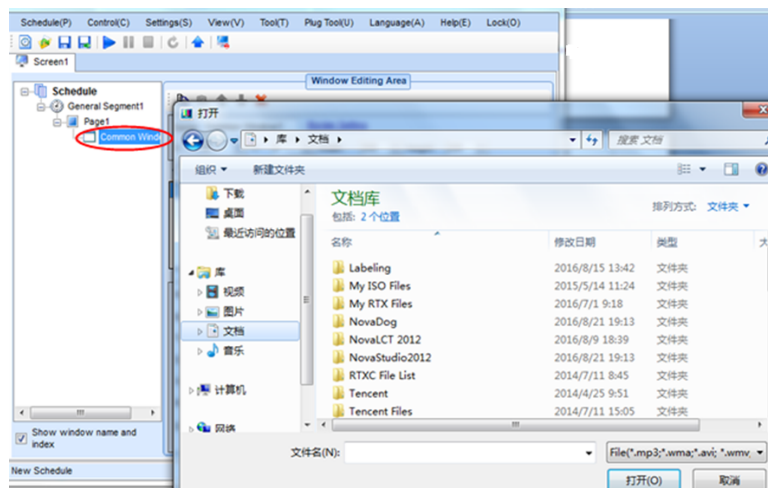

Figure 4-28 Opening a Playing Solution File
**Open:** After a playing solution is saved, you can directly click **Schedule** in the toolbar and select **Open** to open the playing solution. See Figure 4-28: